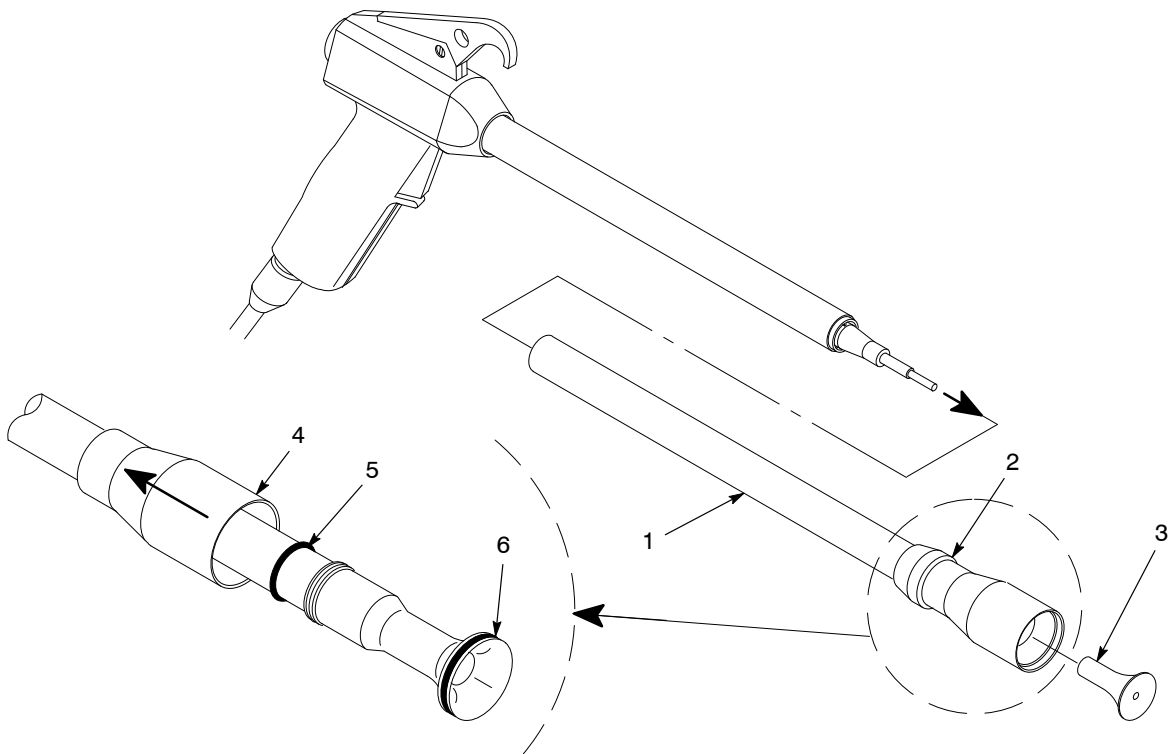

Figure 5 Outer Charge Sleeve Support and Pattern Adjust Sleeve Replacement
1. See Figure 5. Pull the outer charge sleeve support (1) out of the spray gun body with a slight twisting motion. The deflector (3) will pop out. Be careful not to lose it.
2. Pull the pattern adjust sleeve (4) forward.
3. Slide the pattern adjuster retainer (2) off the outer charge sleeve support.
4. Roll the black O-ring (5) onto the tube as shown.